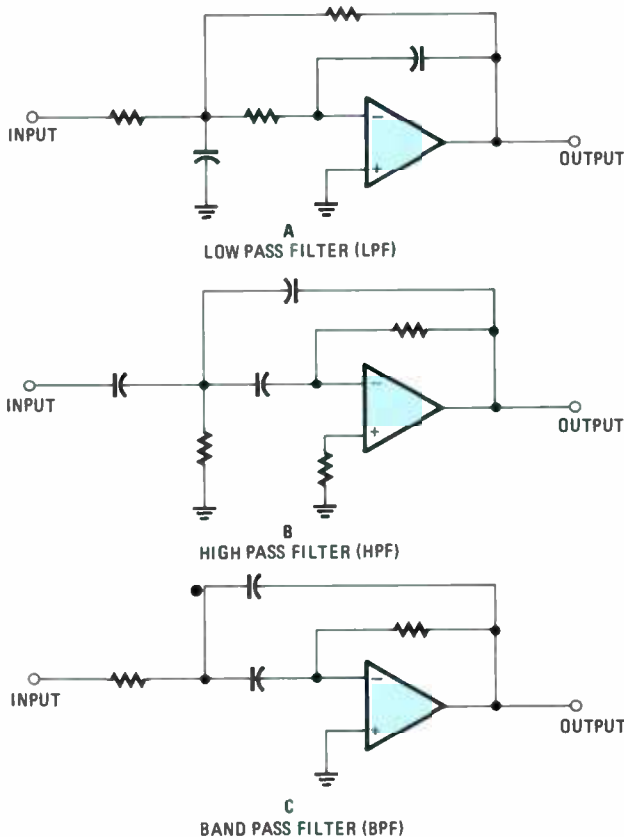

Fig. 9—These three op-amp circuits are commonly used as active, frequency-selective filters.
24. (active filter) Figure 9 shows three popular active filter configurations. A is a low-pass filter, B is a high-pass filter, C